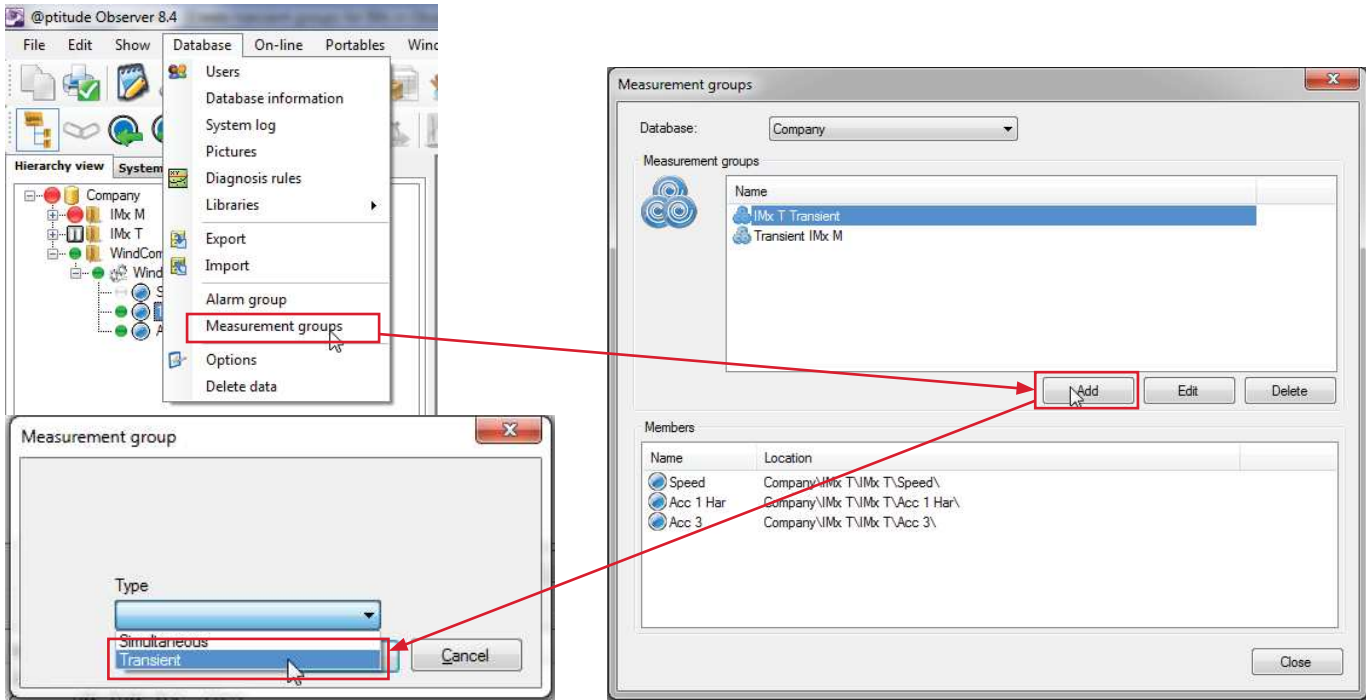

Fig. 4. Creating a new transient group.
- 1 Go to the **Database** menu and select **Measurement groups**, click **Add**, and then choose "Transient" (→ fig. 4).